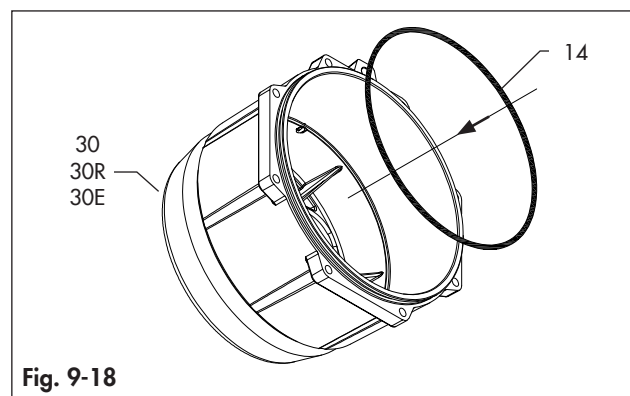

Fig. 9-18
- Place the end caps o-ring (14) into the groove as shown in Fig. 9-18 making sure that the o-ring is stable in its housing.